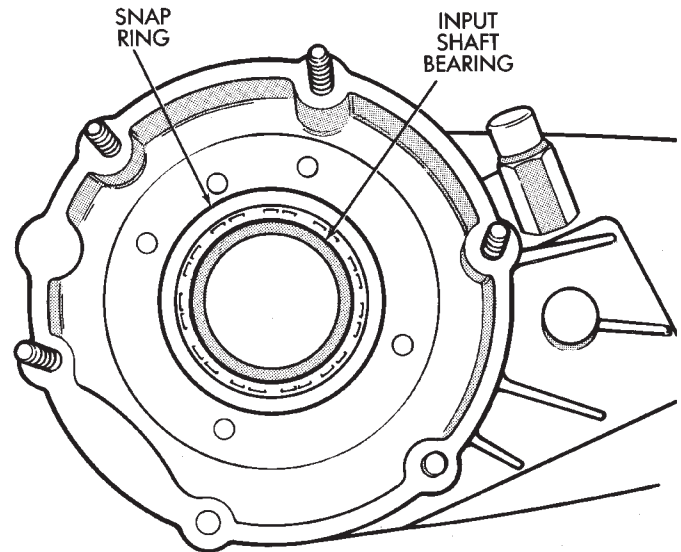

Fig. 41 Seating Input Gear Bearing
- (7) Install snap ring on new input gear bearing.
- (8) Install new input gear bearing with shop press and wood block. Install bearing far enough to seat snap ring against case (Fig. 41).